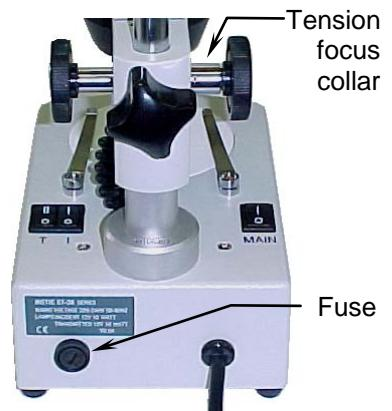

Fig. 5
- a. With a flat screwdriver, press lightly on the slot of the fuse cap (Fig.5) and turn 1/4 turn as indicated by the arrow.
The tension adjustment collar for focussing (Fig.5) is situated between the focussing knob (13) and the head holder (11).